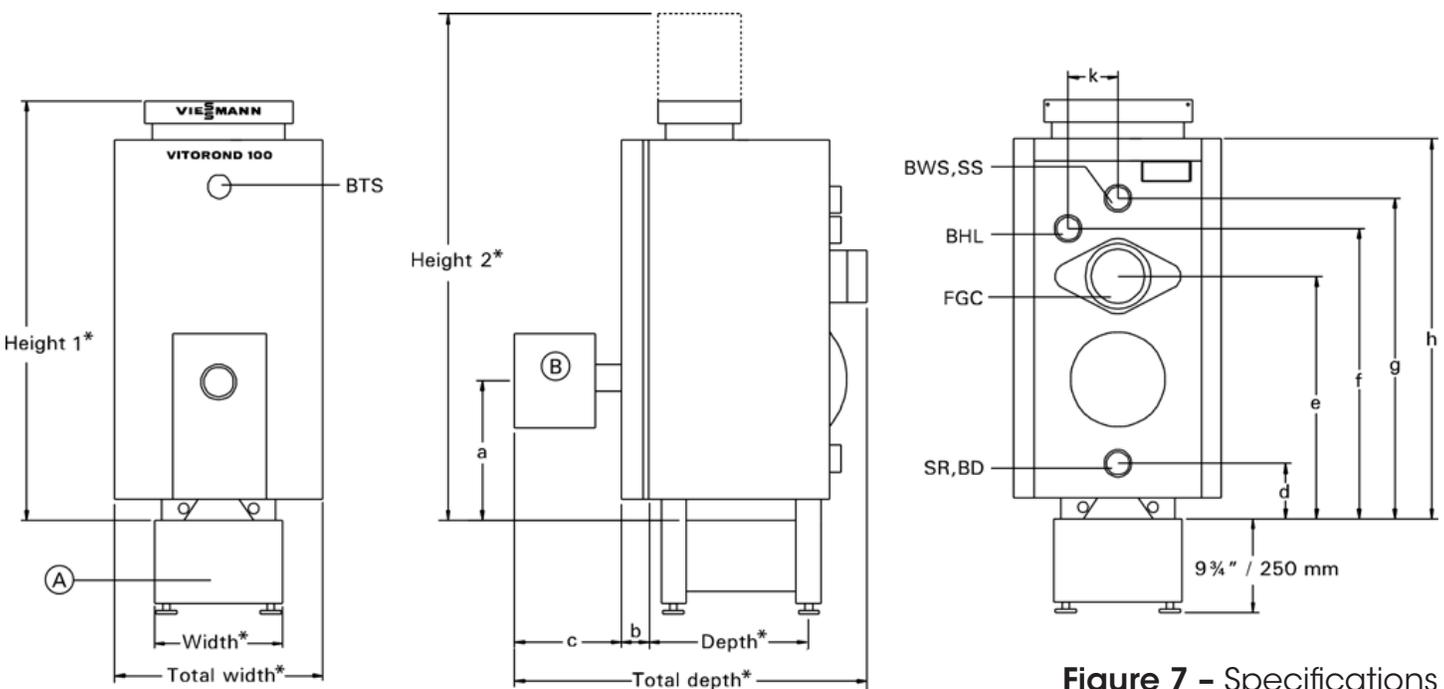

Figure 7 - Specifications
- **Oil Pressure Adjustment:** Adjust flame length in the heater combustion chamber viewed through the inspection port located directly above the burner gun assembly by increasing CW or decreasing CCW the adjuster located on the oil delivery pump (figure7). The adjuster increases or decreases the pump motors RPM, which increases or decreases the delivery of fuel to the burner. When you increase or decrease the fuel to the burner, you will notice the flame length will increase or decrease. Adjust flame length so flame is just slightly less than halfway down main combustion chamber tube.